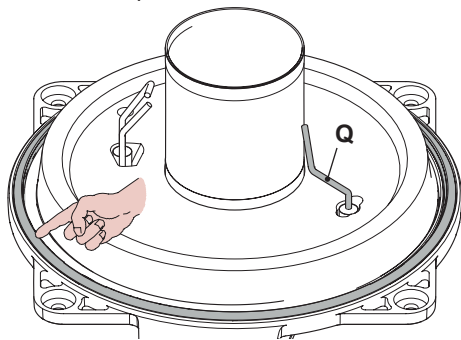
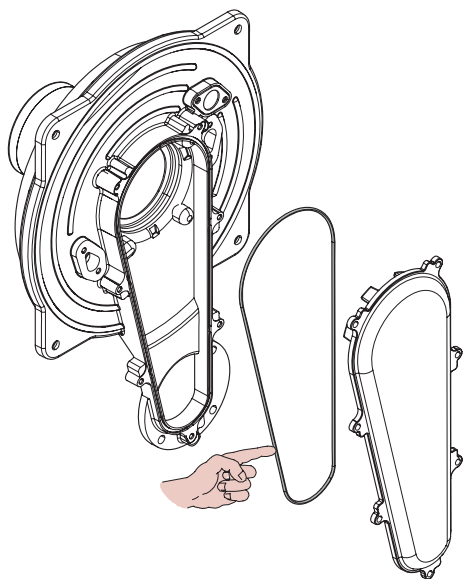

Fig. 10.7
Fig. 10.8
- The silicon seal on the front wall of the combustion chamber Fig. 10.7 and the seal on the air/gas pipe cover (Fig. 10.8) must be replaced if worn.
- The detection electrode "Q" in Fig. 10.7 also functions as a sensor for the correct drainage of the condensate. Should the mentioned electrode come into contact with the condensate water present within the combustion chamber it sends the boiler into safety lockout. Therefore, should the insulation be wet or deteriorated, provide for the substitution of the same.
**Caution:** After any periodical servicing or disturbance the combustion chamber silicon seal Fig. 10.7 and the Air-gas duct gasket (Fig. 10.8) must be fully inspected and replaced at the discretion of the service engineer.